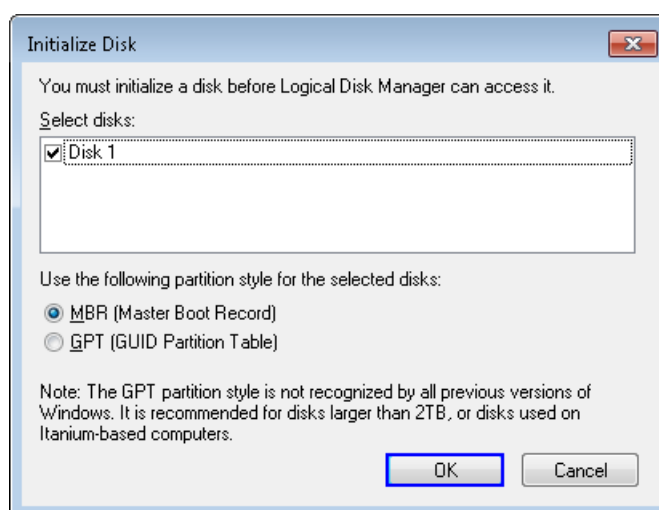

Figure 3-2 Initialize New Disk
- Select Computer Management -> Disk Management and Pop-up menu will be displayed as shown in Figure 3-2. Click “OK” button to start initialize disk.